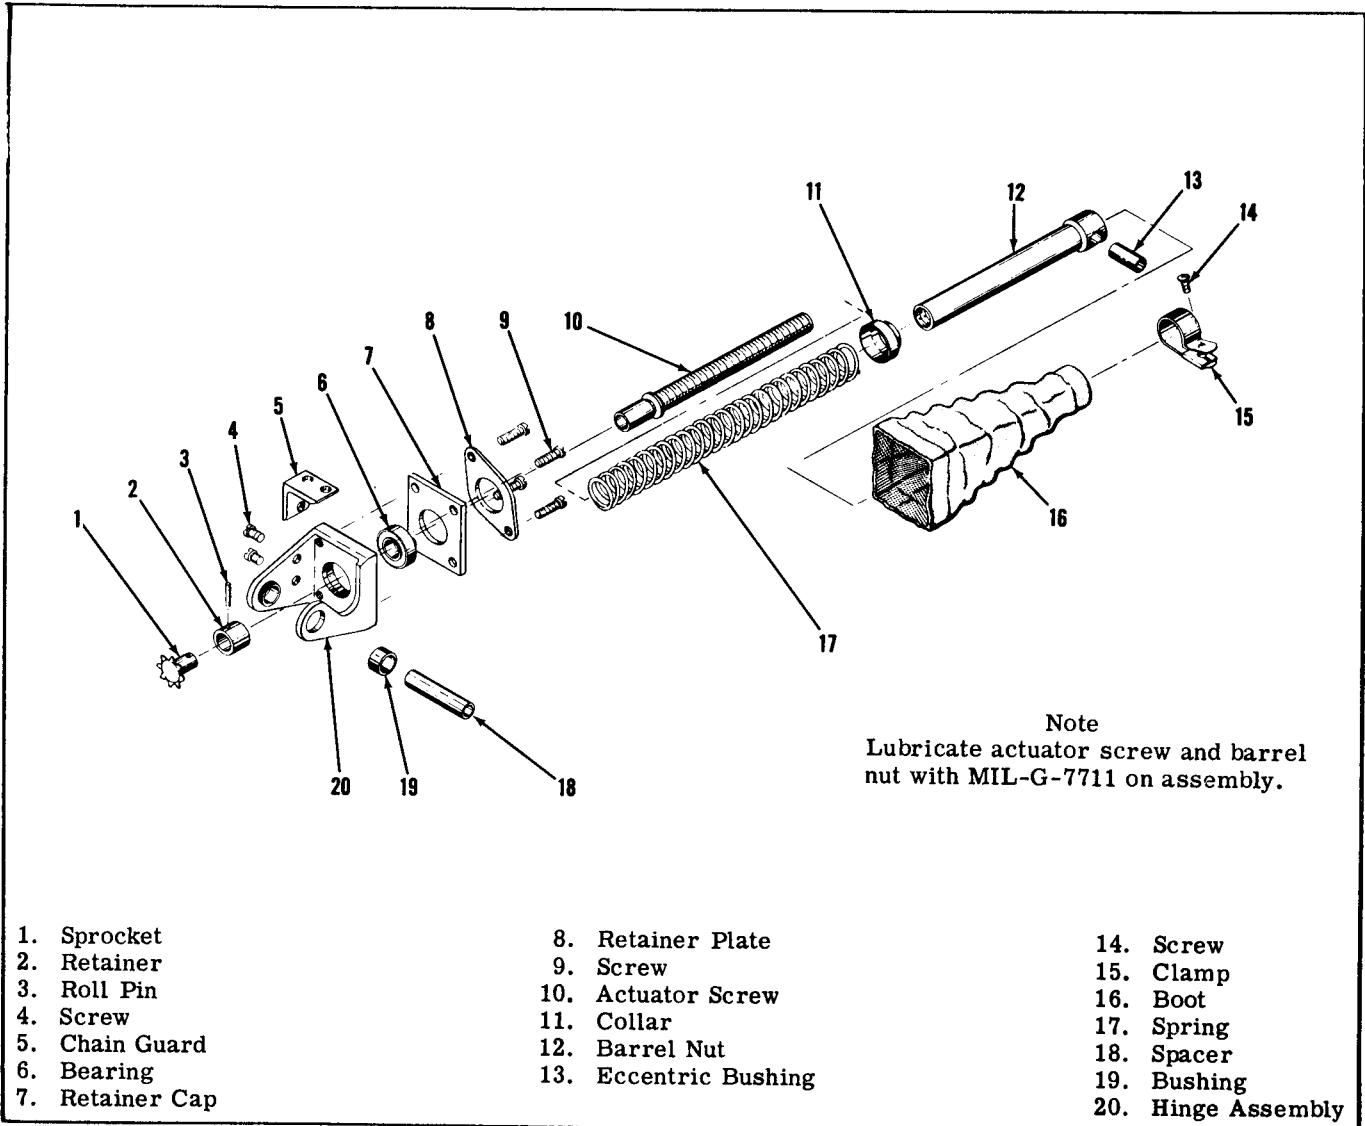

Figure 11-4. Stabilizer Screw-jack Actuator
- e. If necessary, remove screws (43) attaching chain guard.
**11-7. STABILIZER ACTUATOR OVERHAUL.****11-8. DISASSEMBLY OF STABILIZER ACTUATOR. (See figure 11-4.)**
- a. Loosen and remove screw (14) and boot retaining clamp (15).
- b. Carefully break the cemented bond between boot (16) and hinge assembly (20).
- c. Slide the boot (16), small end first, from the stabilizer actuator assembly.
- d. Unscrew and remove the barrel nut assembly (12) from the actuator screw (10).
- e. Slide the collar (11) and spring (17) from the actuator screw (10).
- f. Cut the safety wire, and remove the four screws (9) securing plate (8) and cap (7) to the hinge assembly (20). Remove plate (8) and cap (7).
- g. Remove screws (4) securing chain guard (5) and remove the chain guard.
- h. Using a 1/16 inch drift pin, punch out roll pin (3). Pull sprocket (1) and retainer (2) from actuator screw (10).
- i. Using a rubber mallet, lightly tap the actuator screw (10) out of bearing (6).
- j. Spacer (18) and eccentric bushing (13) may be removed if desired by pushing them from their respective holes.
- k. If necessary, bearing (6) may be removed by pressing bearing out of hinge assembly (20).
- l. Bushings (19) are a press fit. Removal of these bushings is not recommended.
**11-9. REPAIR OF STABILIZER ACTUATOR. (See figure 11-4.)**
- a. If bearing is being replaced, press bearing (6)